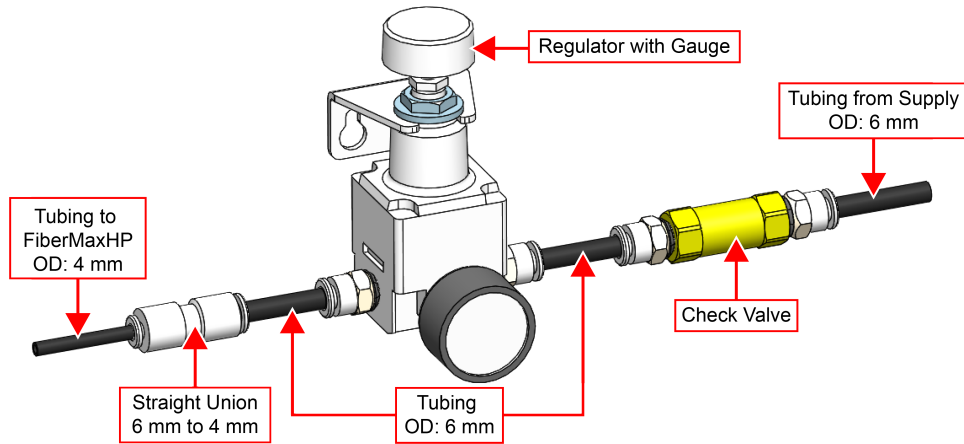

Figure 2-19: Counterbalance Pneumatics
3. Connect the pneumatics components to the air supply (refer to Figure 2-19).
NOTE: The faces of the cross roller bearings will be coplanar (refer to Figure 2-19).